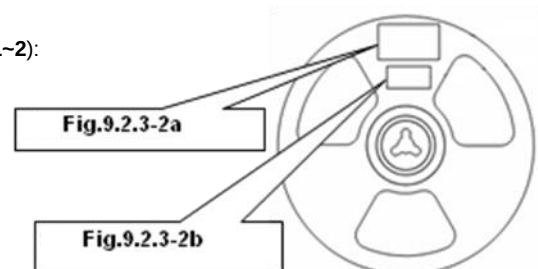

Fig.9.2.3-1
- Fig.9.2.3-2b: Production label